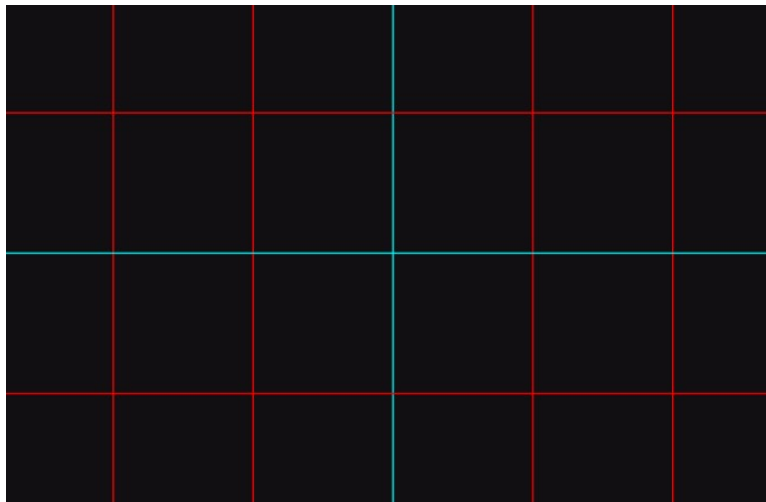

Figure 5-39 Crosshair ruler with cross line in center
- (4) Crosshair ruler : A bar-shaped ruler marking the interval of the input values on the screen, as shown in Figure 5-39.